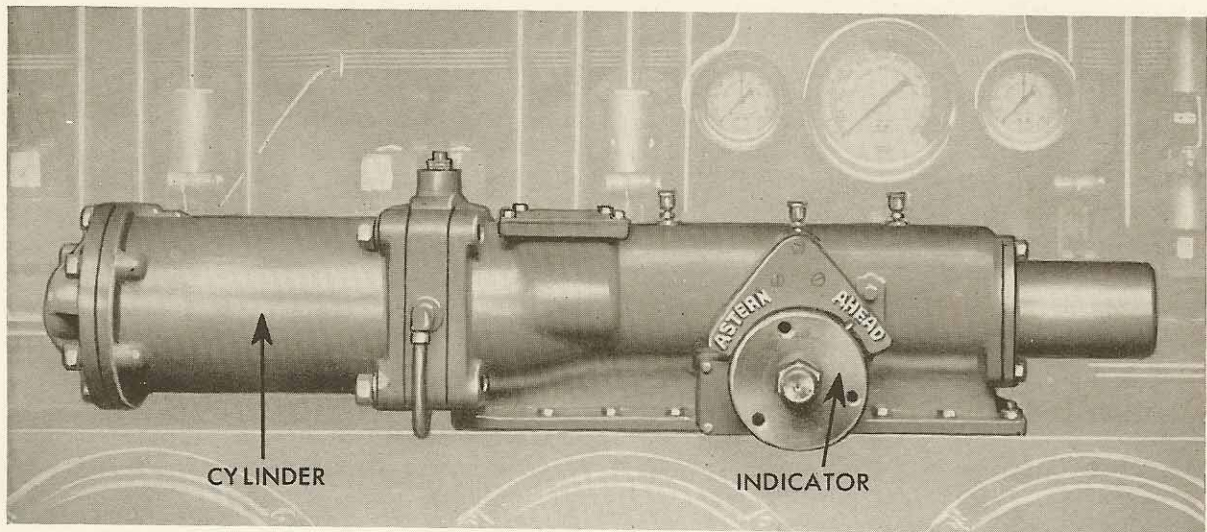

FIGURE 18-19
34. OPERATION OF LATCH-SHAFT RAM: This ram, shown in Figure 18-19, is used to rotate the latch shaft and is operated by compressed air delivered by the single lever control unit. As explained in paragraph 32 of Section 5, the two pilot valves which control the ram are so arranged that when one valve is supplying air to one end of the cylinder, the other valve is venting the opposite end. The capacity of the vent valve is such that it allows the piston to travel rapidly from one end of the cylinder to the other.